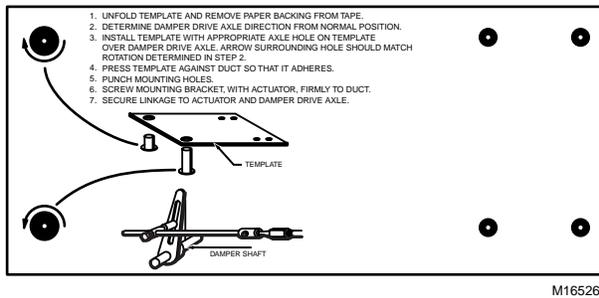

Fig. 5. 14002906-001 Bracket Template (Use “B” Holes).
2. Mark holes using the "B" holes of the bracket template enclosed with the actuator (Fig. 5):